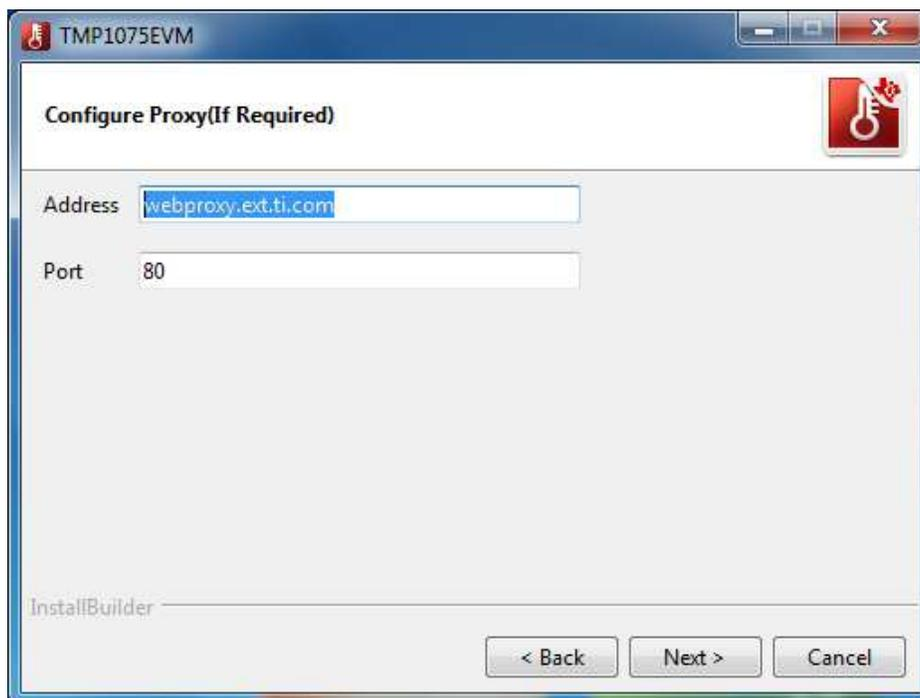

Figure 8. Network Proxy Server
4. Some servers must configure the proxy before authorizing users gains access outside of the internal network, and they act like an intermediary between the user's computer and the internet. In this case, provide the correct server address and port number. If the server does not require the proxy server, just simply delete the default address and port number in Figure 8 by leaving the input box blank and click *Next*.